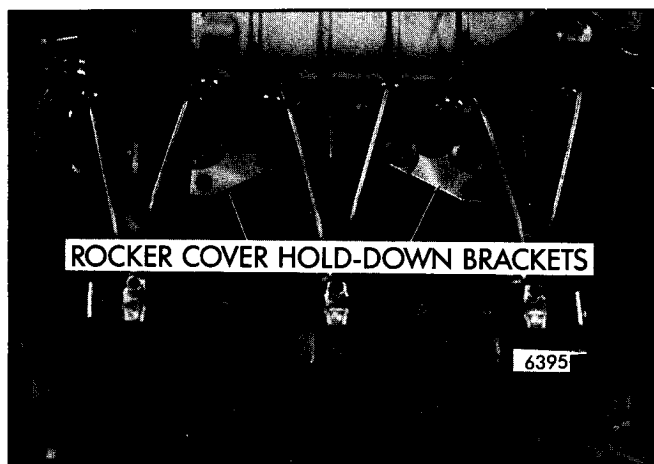

Fig. 11 - Rocker Cover Hold-Down Brackets Mounted on Rocker Arm Shaft Brackets
5. Insert the rocker arm bracket bolts through the rocker cover hold-down bracket (if used) and through the brackets and the shaft (Fig. 11).